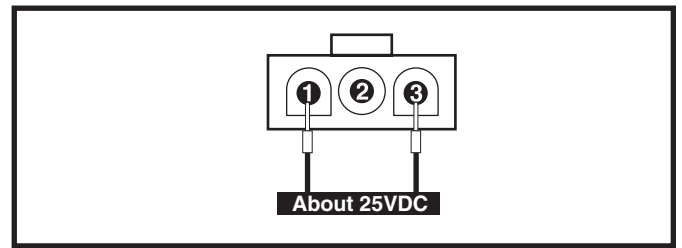
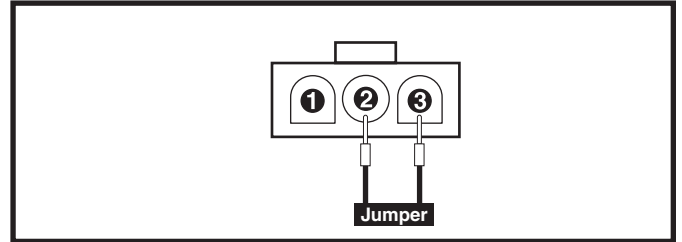

Figure 8. Connector 1b
Figure 9. Connector 1b - Jumpered
2. Measure voltage across pin 1 and pin 3 on connector 1b. **See figure 8.**
- If your multimeter indicates 0VDC, then replace the VSI controller (1) and retest the system.
3. Place a jumper across pin 2 and pin 3 on connector 1b. **See figure 9.**
- If the speed LED(s) continue to flash, then replace the VSI controller (1) and retest the system.